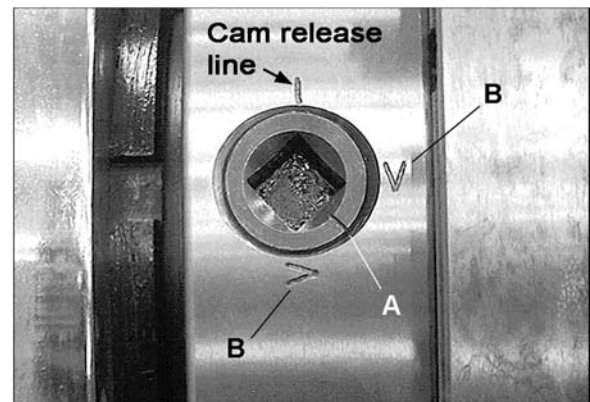

Figure 7 – Camlock
1. Support the chuck while turning six camlocks 1/4-turn counterclockwise, using the chuck wrench from the tool box. See Figure 7.
5. Lift the chuck up to the spindle nose and press onto the spindle. Tighten in place by turning the camlocks 1/4 turn clockwise. The index mark (A, Figure 7) on the camlock should be between the two indicator arrows (B) when tight, as shown in Figure 7.
- If the index mark (A) is *not* between the two arrows, i.e. the cam turns beyond the indicator arrows, then remove the chuck and turn the camlock stud IN one full turn.